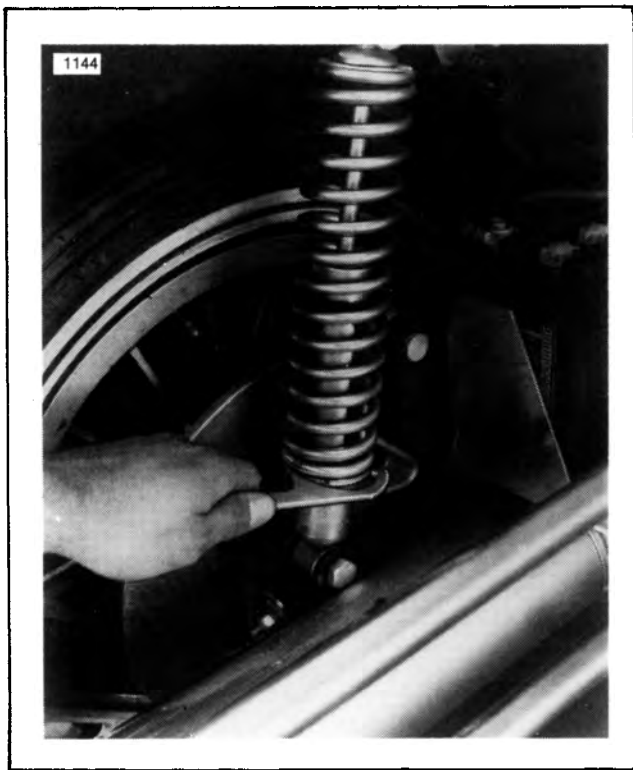

Figure 2-82. Adjusting the Rear Shock Absorber
2. See Figure 2-82. Using a SPANNER WRENCH, Part No. HD-94820-75, turn the shock absorber cam to the desired position. Repeat for the other shock so both are adjusted to the same level.